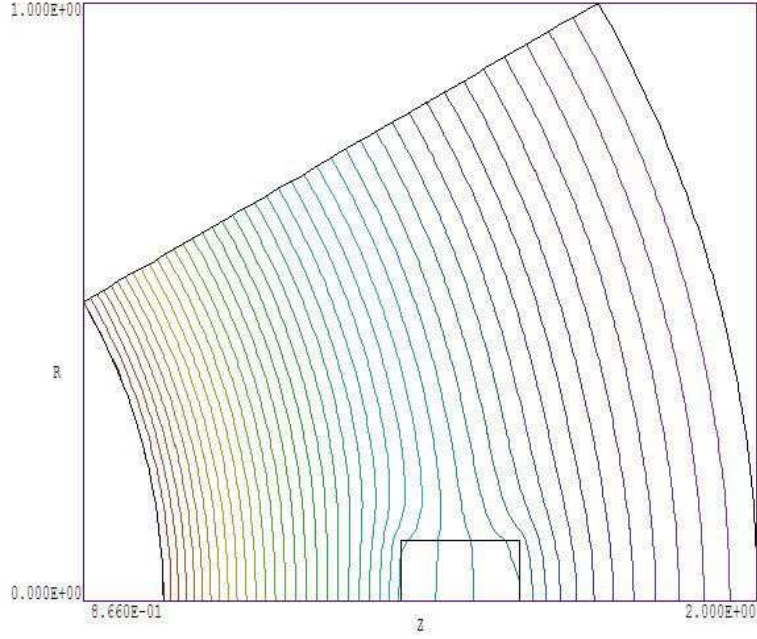

Figure 8: Special Neumann boundaries.
- **Neumann.** The normal derivative of the potential is specified. The boundaries in **HiPhi** are limited to the special case where $\partial\phi/\partial n = 0$. The special Neumann condition implies that the electric field is parallel to the boundary. One of the advantages of the finite-element method is that all boundaries that are not fixed automatically satisfy the special Neumann condition, even if they are slanted or curved. Neumann boundaries are often used to reduce computation time for symmetric systems. For example, Fig. 8 shows an equipotential plot for a solution of the fields between two spherical electrodes with a dielectric inclusion. By utilizing automatic Neumann boundaries at the top and bottom, we can limit the section to a fraction of the interelectrode volume.